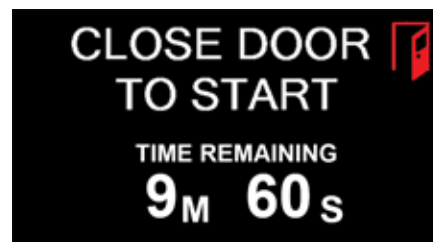

Fig. 61 - Close door to start delime operation
8. "CLOSE DOOR TO START" appears, (Fig. 61). The red door icon indicates the doors are open.